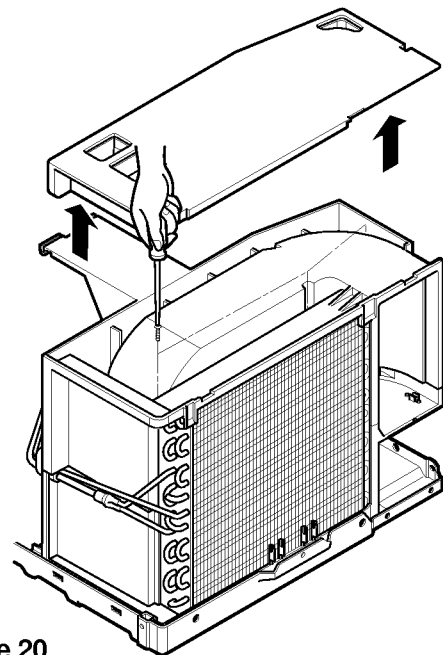

Figure 20
6. Re-install the components by referring to notes. (See figure 20)